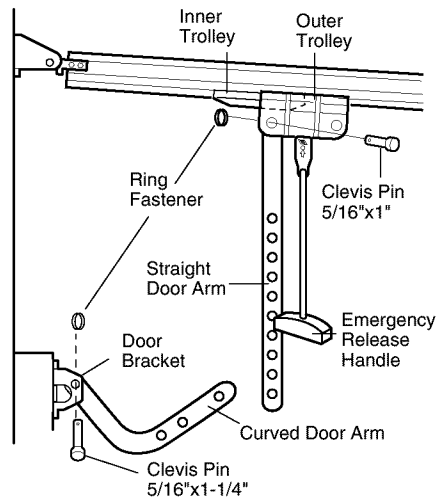

Figure 1
- Mark and drill 5/16" left and right fastening holes. Secure the bracket as shown in Figure 1 if there is vertical reinforcement.
- Make sure garage door is fully closed. Pull the emergency release handle to disconnect the outer trolley from the inner trolley. Slide the outer trolley back (away from the door) about 2" as shown in Figures 1, 2 and 3.
• Figure 1: